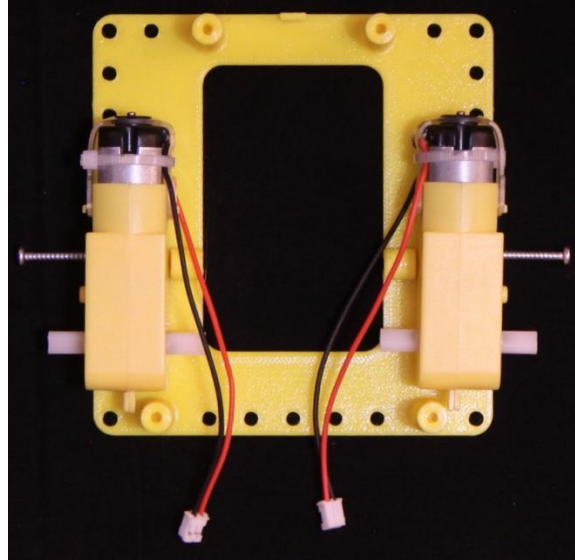

Figure 2, Bottom Plate with Motors
2. Place the bottom plate flat on a table along with both motors and the two 1" screws, as shown in Figure 2.